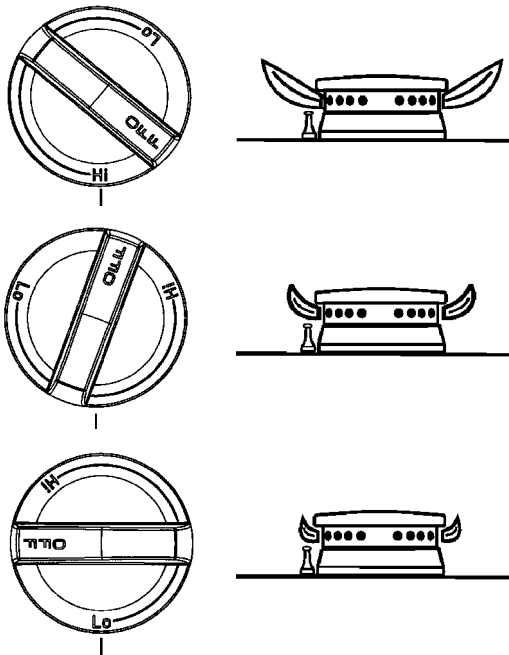

FIGURE 14
After Conversion Steps A, B and C have been completed, check the appearance of each burner flame at the Hi and Lo settings against figure 14. If the flames appear too large or too small, review each step to make sure it was completed correctly.
- Starting from the LP position (see #5 on page 9, under C. LOW FLAME ADJUSTMENT), turn the screw counter clockwise until the flame stabilizes and matches the pictured “low” setting on figure 14. Proper adjustment will produce a stable, steady blue flame of minimum size. The final adjustment should be checked by turning the knob from high to low several times without extinguishing the flame.
After Steps A, B and C have been completed, check the appearance of each burner’s flame at the Hi and Lo settings against figure 14. If the flames appear too large or too small, make sure all steps were completed correctly.